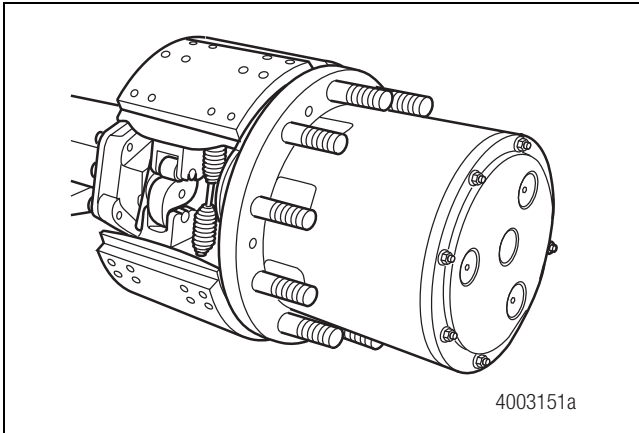

Figure 9.3
1. Rotate the wheel hub to locate the wheel stud in the area between the brake shoes, cam or anchor area. This avoids damaging the brake shoes during stud removal. Figure 9.3.